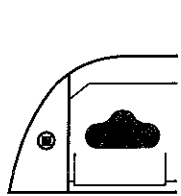

Figure 5
1. Insert the square end of the key into the square opening located on the bottom left of the dispenser back (Figure 5).